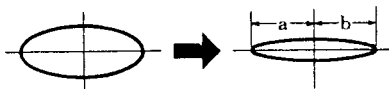

Fig.10-2-12 Fine adjustment of grating
- ④ Connect connector CN706 of SRVB assembly.
- ⑤ Make sure that crosstalk is set at minimum at frames #104 and #18914. If crosstalk exists here, repeat the tilt adjustment.
- ① Set the TRKG servo loop to OPEN.
- ② Set the oscilloscope to the X-Y mode and adjust X and Y to 0V. (Align the beam spot of the oscilloscope to the center of the CRT scale.) Connect TP2-4 to the X-input (DC mode) and TP2-5 (TRKG(A+C) signal) to the Y-input (AC mode).
- ③ Press the fast forward key of the remote controller and set the position near frame #15000.
- Adjust the grating so that the Lissajous' wave form becomes horizontal. (Refer to Fig. 10-2-12.)